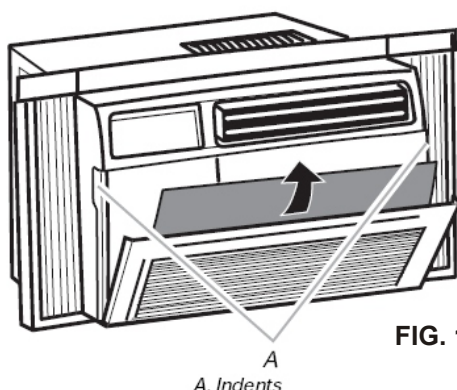

FIG. 15
1. Remove the filter by pulling down on the indents of the filter door on the front of the unit. (See FIG. 15)